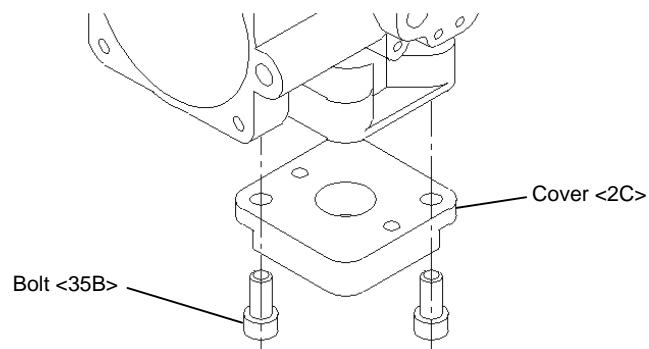

Fig.17
- (5) Assemble the cover with the housing (Fig.17).